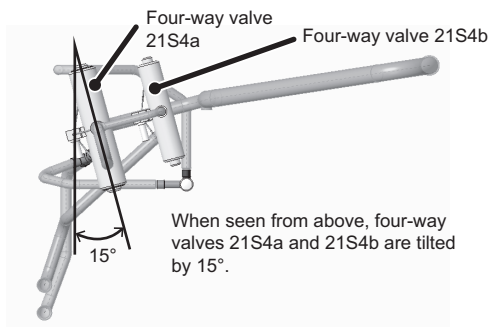

Figure 14-1
- (14) Re-place the four-way valves (21S4a and 21S4b) that were removed in step (11). Figure 14-1 shows how to position a new four-way valves.